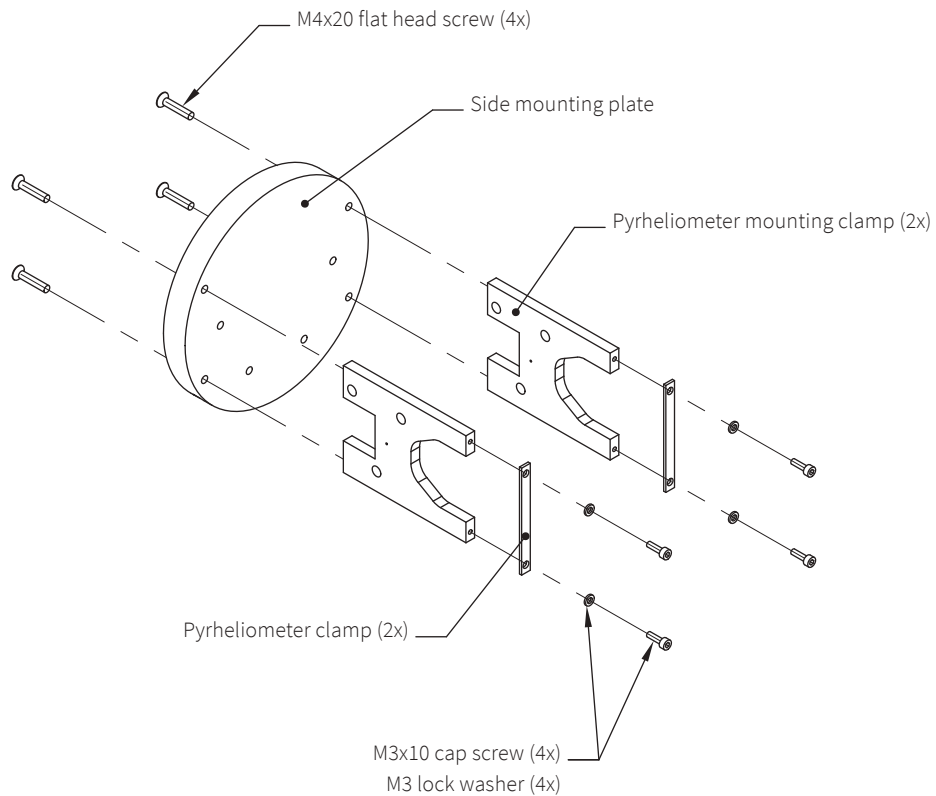

figure 3.1: Assembling a side mounting plate with pyrheliometer mounting kit
A second side mounting plate is used in conjunction with the shading ball assembly or for mounting a second pyrhelimeter. The supplied plates can be customized to meet your specific configuration requirements. For alignment of a second mounting plate a clear sun is required to adjust the position on the axis. During normal operation (SOLYS turned on) the position of the side mounting plate can be fixated with the alignment target on the mounting clamps (or pyrhelimeter). The hole pattern of the side mounting plate is given in figures 3.1 and 3.3. If a second side mounting plate is used to mount the shading drive arm (without instrument mounting clamps) this drive arm should be aligned with the first one before fixating the screws on the axis. The SOLYS can handle payloads up to 80 kg including all accessories.
- Pre-assemble the side mounting plate as shown in figure 3.1 and attach the side plate assembly to the Zenith shaft. Ensure that the plate is pushed up against the end of the Zenith shaft.